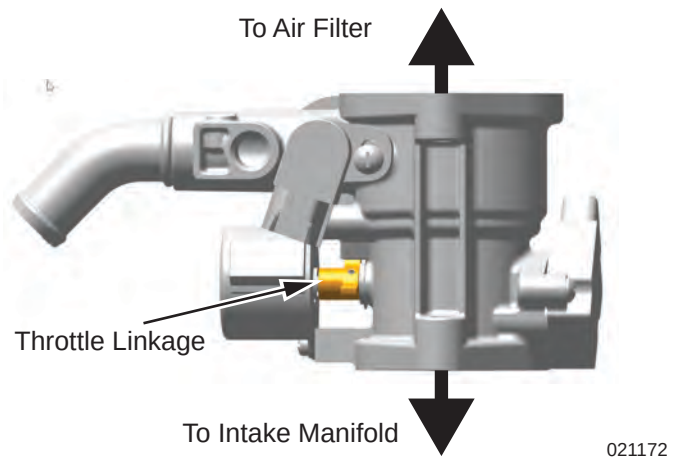

Figure 10-17. External Throttle Valve Linkage
1. See Figure 10-17. While visually observing the external throttle valve linkage, remove and reinstall the 15A fuse from fuse holder in Wire 13. The throttle linkage should fully sweep then set itself for engine starting.